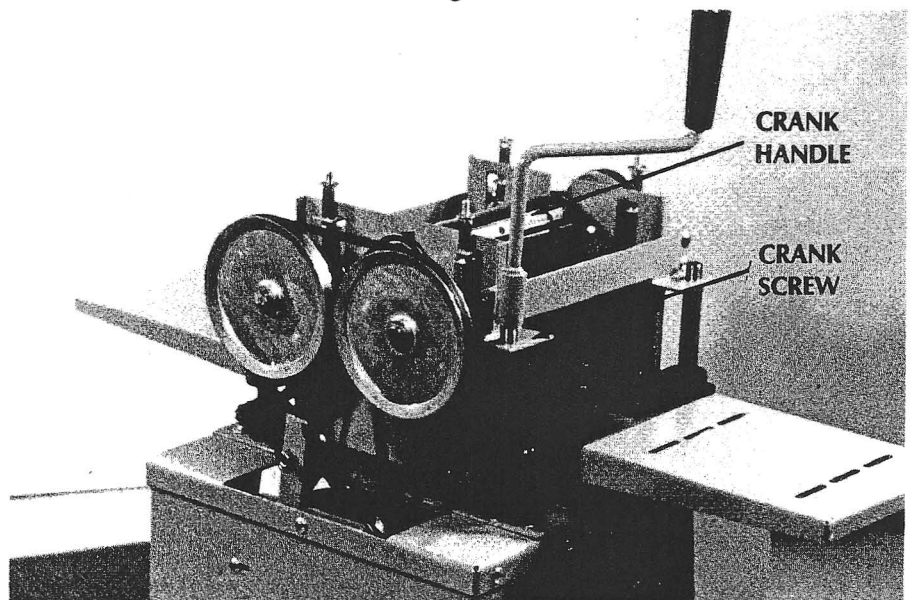

Fig. 9
1. Place RB-84 crank handle on RB-79 crank screw. (fig. 9)